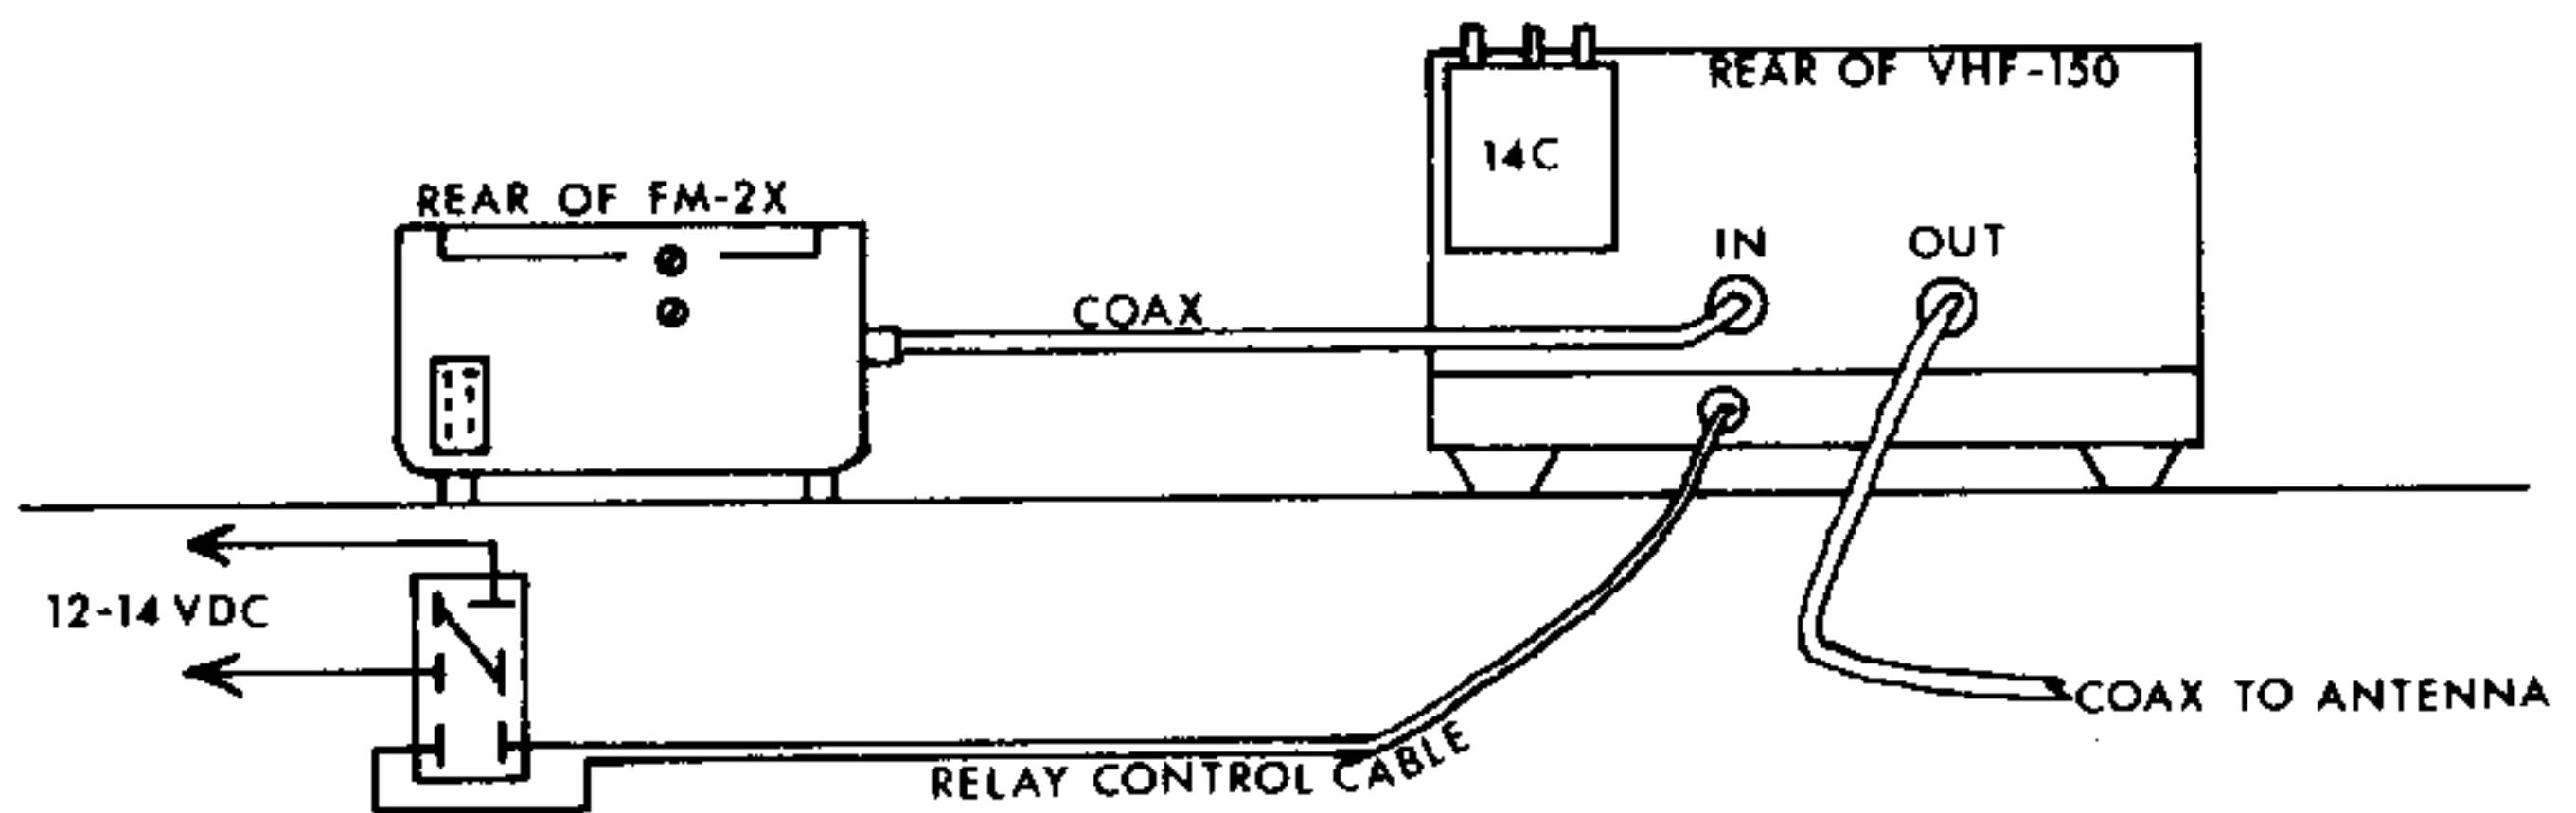

FIG. 4 – TYPICAL MOBILE INSTALLATION USING SWAN FM-2X
Refer to Figure 4 when making the installation. Connect a short length of coaxial cable (RG58U or RG8U) from the output of the FM-2X transceiver to the INPUT connector on the rear of the VHF-150. A PL-259 type connector is required at the amplifier end of the cable. This cable should be as short as practical and preferably not more than 5 feet in length. Remove the 117 volt AC supply from the FM-2X transceiver. Modify the 12 volt DC power cord supplied with the FM-2X, by connecting a two conductor cable (24 AWG stranded parallel cable or equivalent) to the two top pins of the plug (the pins having no wires already soldered to them). (See Figure 4.) Connect a phono plug on the other end. Plug the FM-2X power cord into the rear of the FM-2X. Connect the relay control cable into the relay control jack on the rear of the VHF-150. Install the Swan Model 14C DC converter to the rear of the VHF-150 using the 8-32 screw provided. Connect the VHF-150 to a 12 volt DC power source as shown in Figure 4. Connect the antenna coaxial cable to the OUTPUT connector on the rear of the VHF-150.
- ① Connect amplifier to antenna or dummy load.
- ② Connect relay control cable from Swan FM-2X transceiver to RELAY CONTROL phone jack on rear of chassis.
- ③ Connect output from Swan FM-2X transceiver to INPUT connector on rear of VHF-150 chassis.
- ④ Connect power cable to 117 volts AC (230 volts AC if VHF-150 is wired for 230 volts). If using Mobile, connect amplifier to 12 VDC. (See Figure 4.)
- ⑤ Turn PWR ON switch to "ON" (up) position. Indicator light located below meter will come on.
- ⑥ Allow 2 minutes for warmup of amplifier.
- ⑦ Place the channel switch on the Swan FM-2X to a channel that does not have a crystal installed, or disconnect the coaxial cable between the output of the FM-2X and the input to the VHF-150.
- ⑧ Place the BYPASS TURN-CW-FM SSB function switch in the SSB position.
- ⑨ Depress the mike switch on the FM-2X microphone, and adjust the P.A. BIAS control on the rear of the amplifier until the meter reads 60 ma. of cathode current. Release mike switch.
- ⑩ Place channel switch on FM-2X to a channel that has a crystal installed, or reconnect coaxial cable between output of FM-2X and input of VHF-150.
- ⑪ Set LOAD control to 0 (minimum position).
- ⑫ Set DRIVE control to position No. 5.
- ⑬ Place BYPASS TUNE-CW-FM SSB function switch in the TUNE-CW-FM position.
- ⑭ Depress mike switch and adjust GRID control for MAXIMUM reading on the meter.